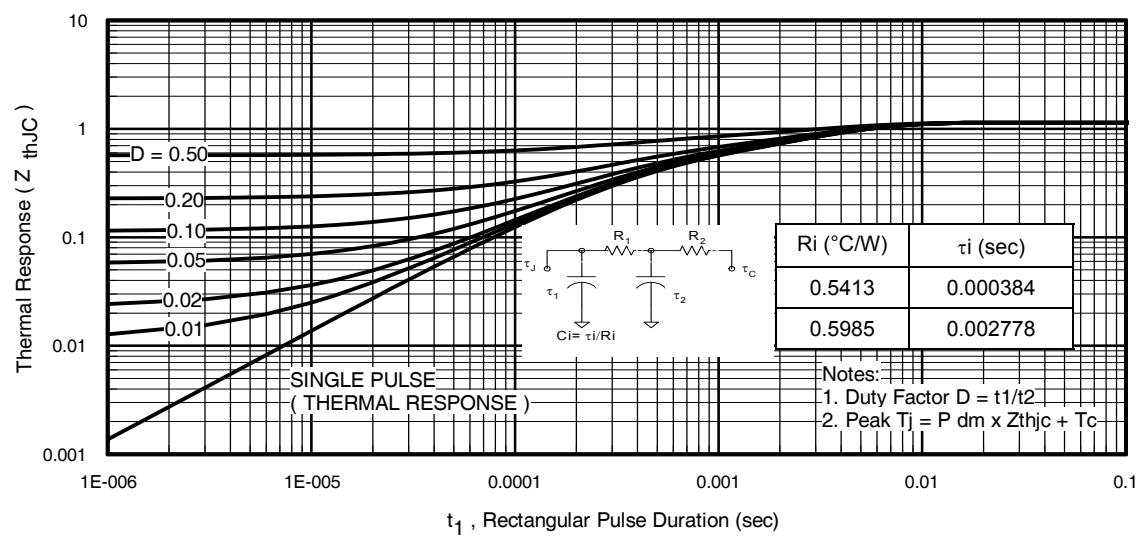
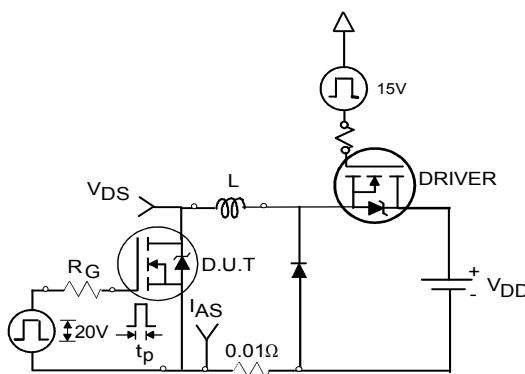

Fig 11. Maximum Effective Transient Thermal Impedance, Junction-to-Case
Fig 12a. Unclamped Inductive Test Circuit
- ① Repetitive rating; pulse width limited by max. junction temperature. (See fig.11)
- ② Limited by $T_{J\text{max}}$, starting $T_J = 25^\circ\text{C}$, $L = 0.09\text{mH}$, $R_G = 25\Omega$, $I_{AS} = 52\text{A}$, $V_{GS} = 10\text{V}$. Part not recommended for use above this value.
- ③ Pulse width $\leq 1.0\text{ms}$; duty cycle $\leq 2\%$.
- ④ $C_{oss \text{ eff.}}$ is a fixed capacitance that gives the same charging time as C_{oss} while V_{DS} is rising from 0 to 80% V_{DSS} .
- ⑤ Limited by $T_{J\text{max}}$, see Fig.12a, 12b, 15, 16 for typical repetitive avalanche performance.
- ⑥ This value determined from sample failure population 100% tested to this value in production.
- ⑦ This is only applied to TO-220AB package.
- ⑧ This is applied to D² Pak, When mounted on 1" square PCB (FR-4 or G-10 Material). For recommended footprint and soldering techniques refer to application note #AN-994
- ⑨ R_0 is measured at T_J of approximately 90°C
- ⑩ Calculated continuous current based on maximum allowable junction temperature. Bond wire current limit is 75A. Note that current limitations arising from heating of the device leads may occur with some lead mounting arrangements.
3. Equation below based on circuit and waveforms shown in Figures 12a, 12b.